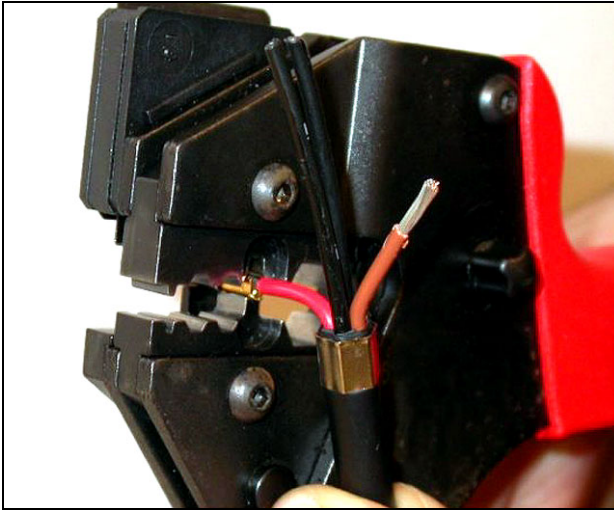

figure 22.14: Crimping a socket contact (2)
- 11 Slide one of the stripped, copper wires into the contact area of the socket contact and close the crimping tool to crimp the socket contact onto the copper wire (see figure 22.14).